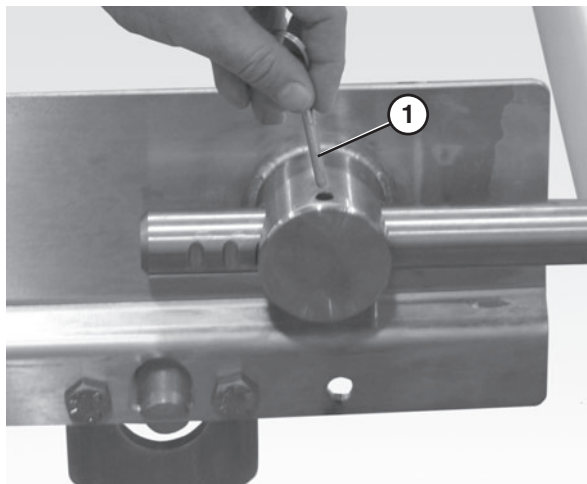

Figure 41
2. Remove the pull pin (**Figure 41, item 1**) on the tension end of the conveyor to release belt tension.